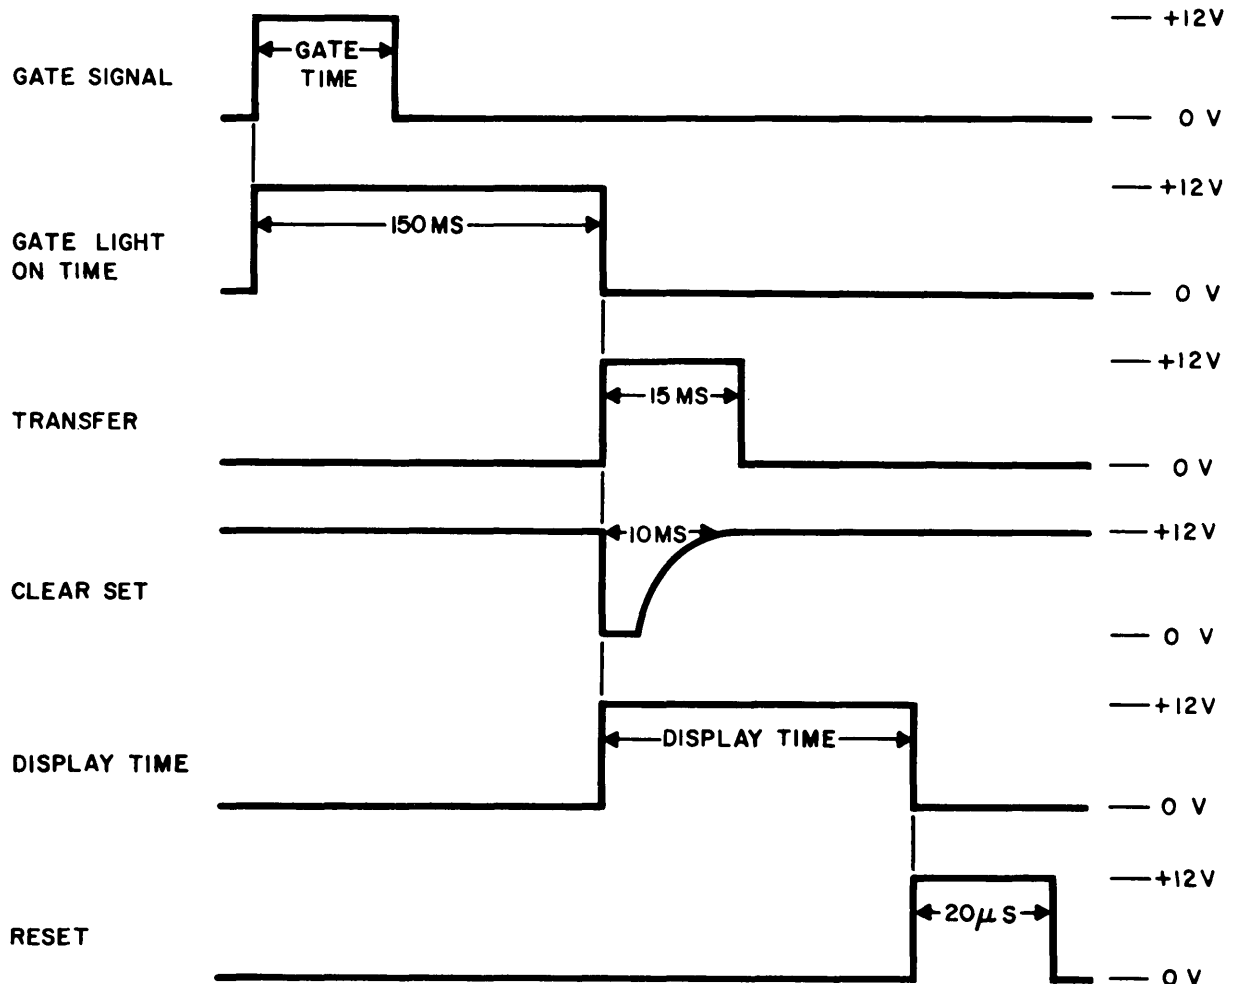

Figure 4-18. Cycle Control, Timing Diagram
As the GATE lamp goes off the 10-millisecond single-shot SS5, consisting of A1A7Q4 and A1A7Q5, is triggered. Its output is de-coupled to INV4 and at-coupled by A1A7C1 to EF2. These two transistors (A1A7Q1 and A1A7Q2) produce the memory transfer pulse and memory clear set pulse, respectively. If memory operation is not required, INV1 conducts, causing INV4 and EF2 to produce proper outputs for track operation. Figure 4-18 is a timing diagram for the cycle control functional section.
c. USEFUL ILLUSTRATIONS. — Illustrations useful in maintaining this functional section are: figures 4-18, 4-19, 5-42, and 5-71.